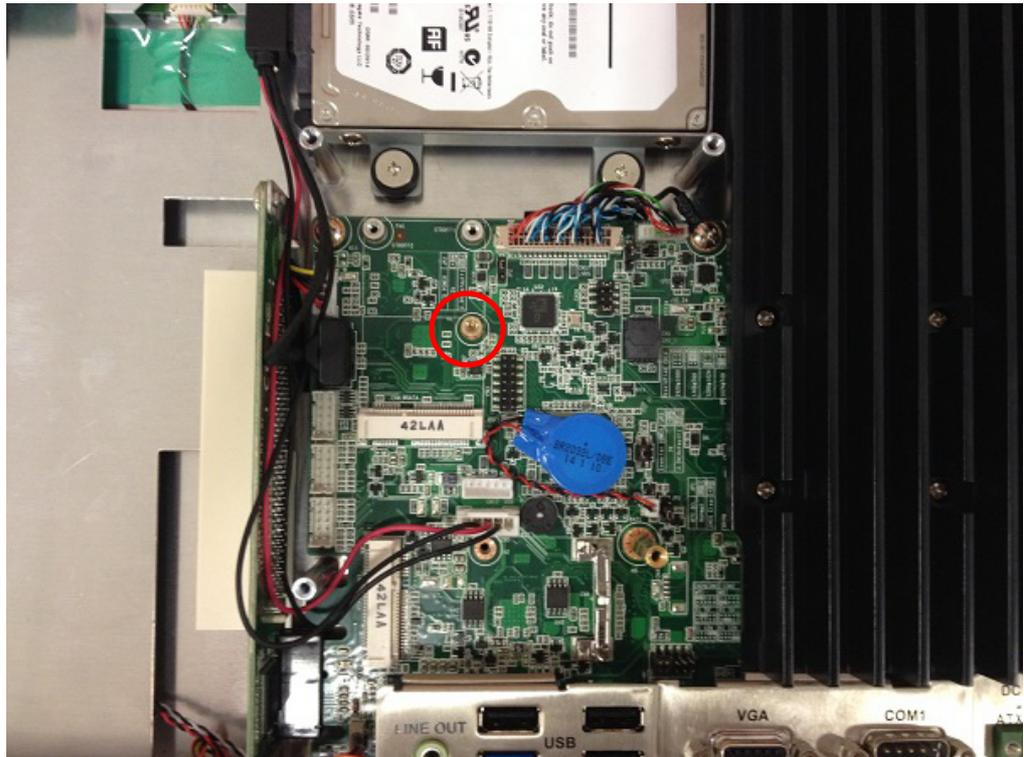
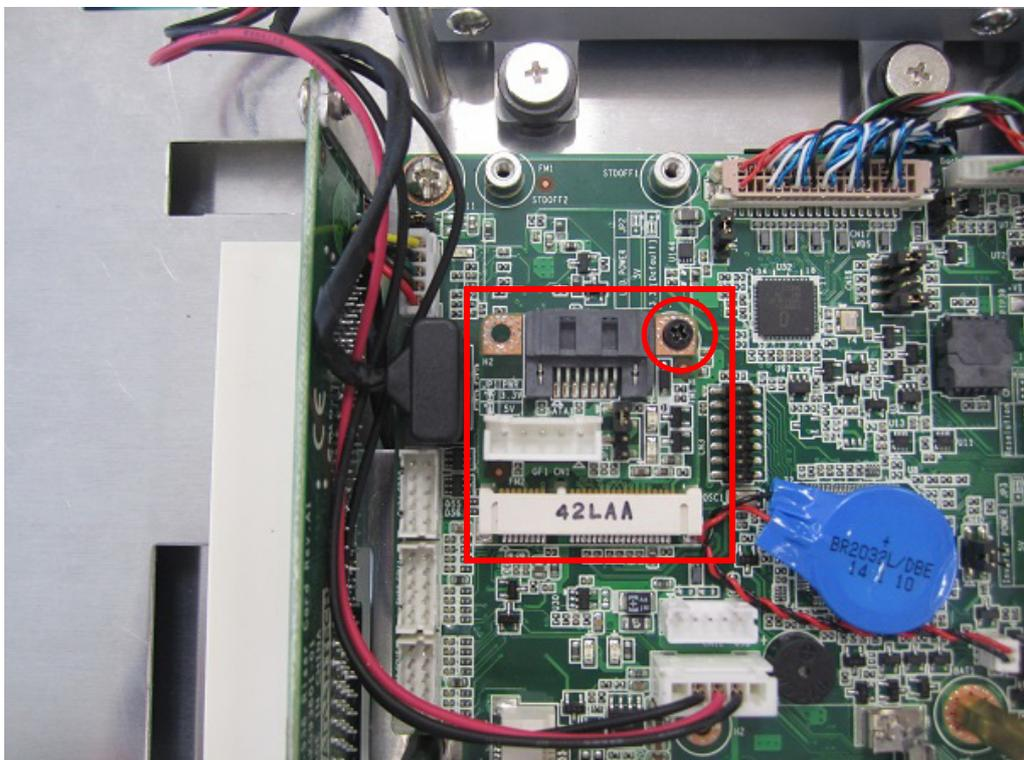

Figure 2.39
Figure 2.40
5. Take out a copper cylinder and fix it to the position marked with red circle in Figure 2.39. Then take out a screw to secure the MiniSATA to the SATA Micro ATX board onto the position marked with a red rectangle in Figure 2.40.